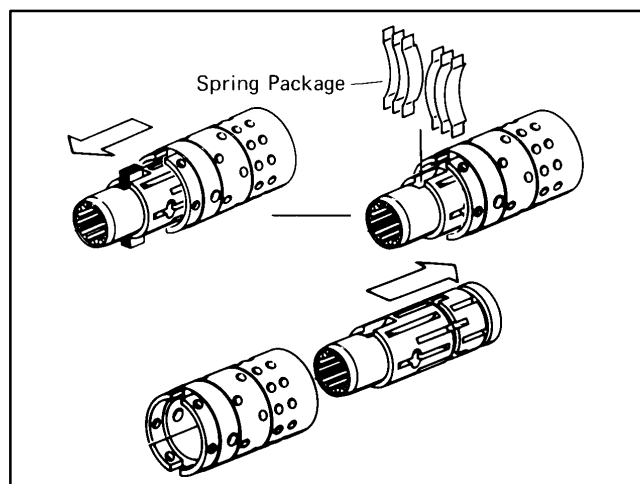

Figure 34
18. Push spool partially from control end of sleeve, then remove 6 centering springs from spool carefully by hand, see Fig. 34.
19. Push spool back through and out of sleeve, see Fig. 34. Rotate spool slowly when removing from sleeve.